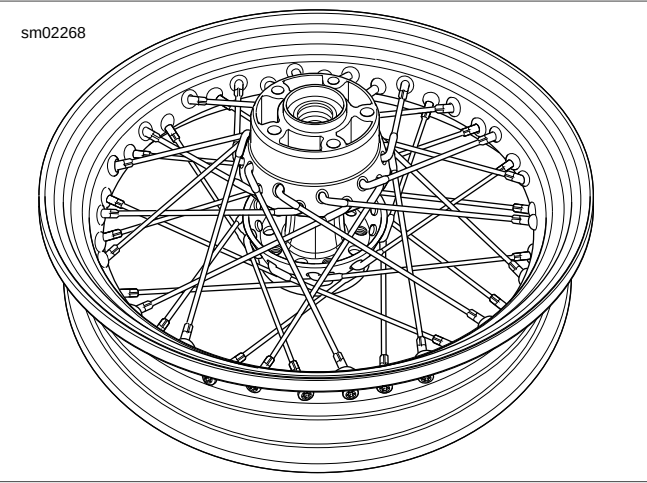

Figure 2-30. Wheel Completely Laced
10. See Figure 2-30. Install remaining nine upper row spokes.